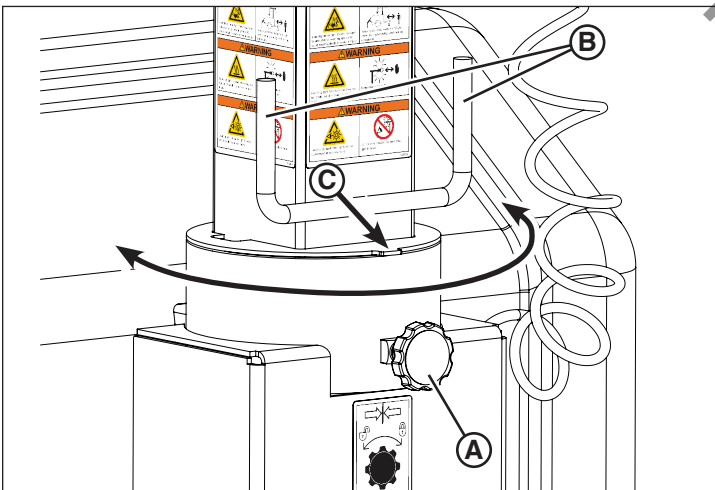

Figure 19
2. Loosen the light tower locking knob (A, Figure 19).
3. Using the handles (B, Figure 19), rotate the light tower in the desired direction.
5. When lighting operations are complete, rotate the light tower to the transport position: Align the light tower tab (C, Figure 19) with the front center of the light tower base. Be sure to tighten the light tower locking knob securely.